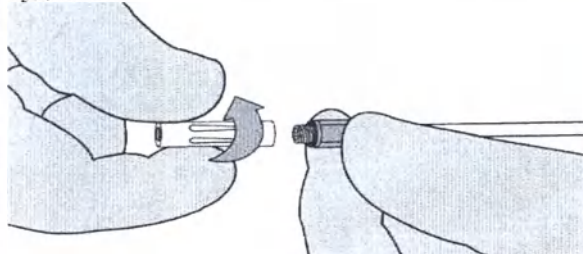

Рисунок 13
3. If expression is stopped for any reason, change the Airless Spray Tip. To change the Airless Spray Tip, remove the device from the patient and unscrew the used Airless Spray Tip (Fig. 13). Place the used Airless Spray Tip away from the spare Airless Spray Tips. Wipe the end of the applicator using dry or moist sterile surgical gauze. Then, connect a new Airless Spray Tip provided in the package and ensure it is firmly connected before use.